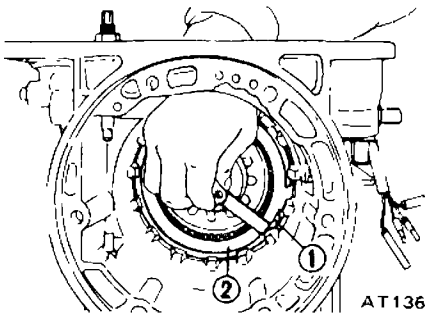

Fig. AT-70 Measuring ring to plate clearance
2. After low and reverse brake has been assembled, measure the clearance between snap ring ① and retaining plate ②. Select proper thickness of retaining plate to give correct ring plate clearance. See Figure AT-70.